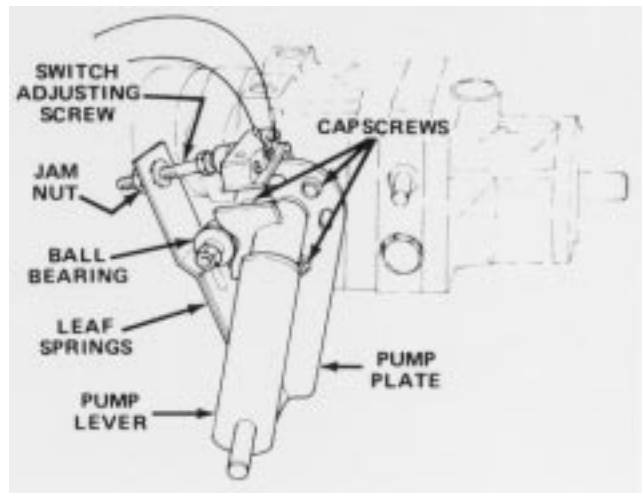

Figure 51
1. Park vehicle on a level surface and turn engine off. Apply the parking brake, tip seat forward, and actuate pump lever (Fig. 51) to insure assembly is properly seated and operating freely. Correct any discrepancy.
6. Because the wheel is rotating, the pump plate must be adjusted. But before adjusting the pump plate, move throttle to SLOW. If wheel is rotating forward, loosen capscrews, and lightly tap bottom of pump plate counterclockwise (Fig. 51). By contrast, tap pump plate clockwise if wheel is rotating backward (Fig. 51). When wheel stops rotating, tighten capscrews holding pump plate against side of transmission. Verify the adjustment with throttle in SLOW and FAST position.
- A. Ball bearing is loose or worn out (Fig. 51).
- F. Weak or damaged leaf springs (Fig. 51). Replace.
2. Actuate the pump lever (Fig. 51) to insure all parts are operating freely and seated properly.
3. Loosen jam nut. Rotate switch adjusting screw (Fig. 51) until there is a gap between head of screw and switch button.